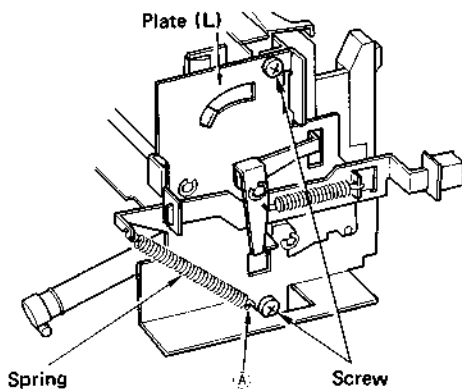

Fig. 9
- 4) Disconnect the spring from point (A) shown in Fig. 9.
- 6) Undo 2 screws shown in Fig. 9 and turn the lever toward the arrow, and the plate (L) for the maintenance of the mechanism base can then be taken out.